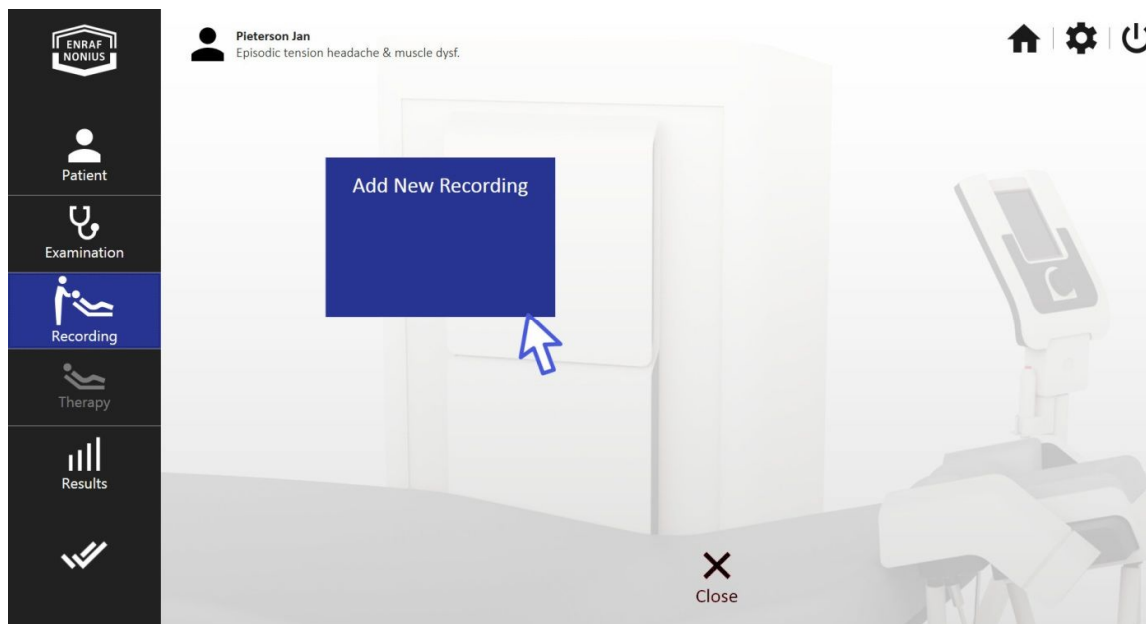

fig. 80
- Click "**Add New Recording**" (fig. 80).